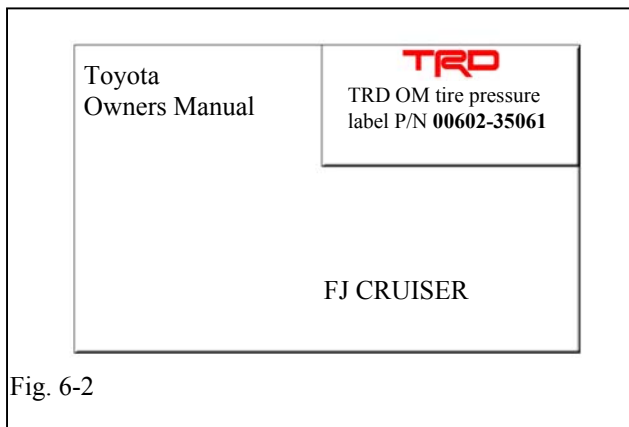

Fig. 6-2
- (d) Install Owner's Manual Label (P/N **00602-35061**) onto upper right front cover of owner's manual. (Fig. 6-2)